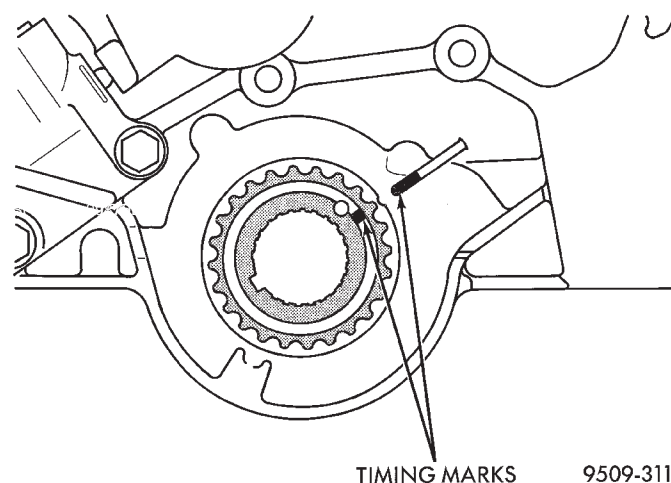

Fig. 57 Adjusting Crankshaft Sprocket for Timing Belt
(3) Install timing belt on rear camshaft sprocket first and install a binder clip on the belt and sprocket so the belt will not slip out of position. Keeping the belt taught, install under the water pump pulley and then around the front camshaft sprocket. Install an additional binder clip on the front sprocket and belt.
(4) Rotate the crankshaft to TDC (Fig. 57). Continue routing the belt by the idler pulley and around the crankshaft sprocket to the tensioner pulley.